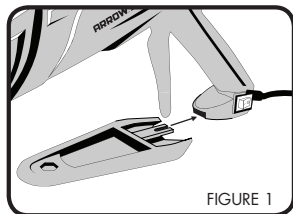

FIGURE 1
- Attach the tool stand (see FIGURE 1).